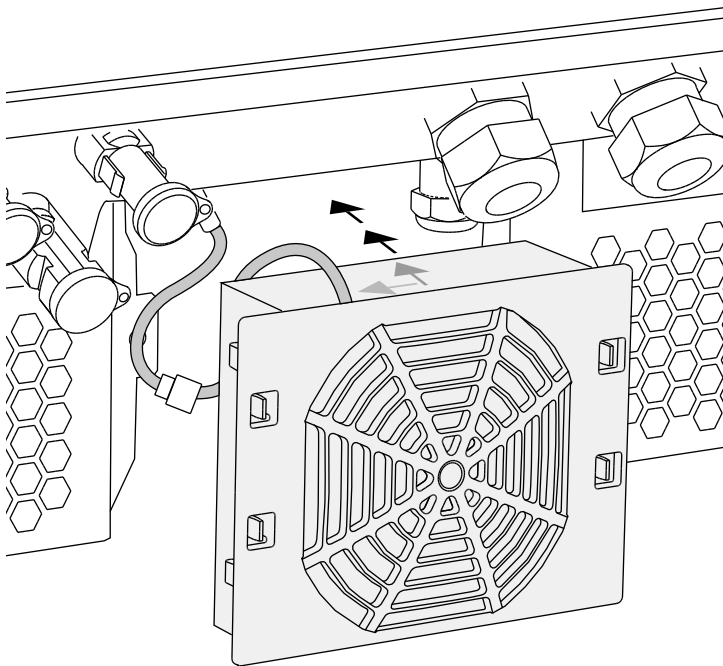

Fig. 74: Fan installation
- The fan must be correctly installed in the fan frame (air flow direction).  **Fig. 74**